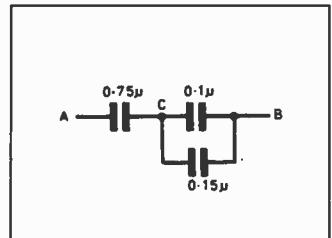

Fig.5.12. Circuit for problem 6.
- Three capacitors are connected as seen in Fig. 5.12. A 10V d.c. supply is connected across the points AB. What will be the steady voltage across the points AC?